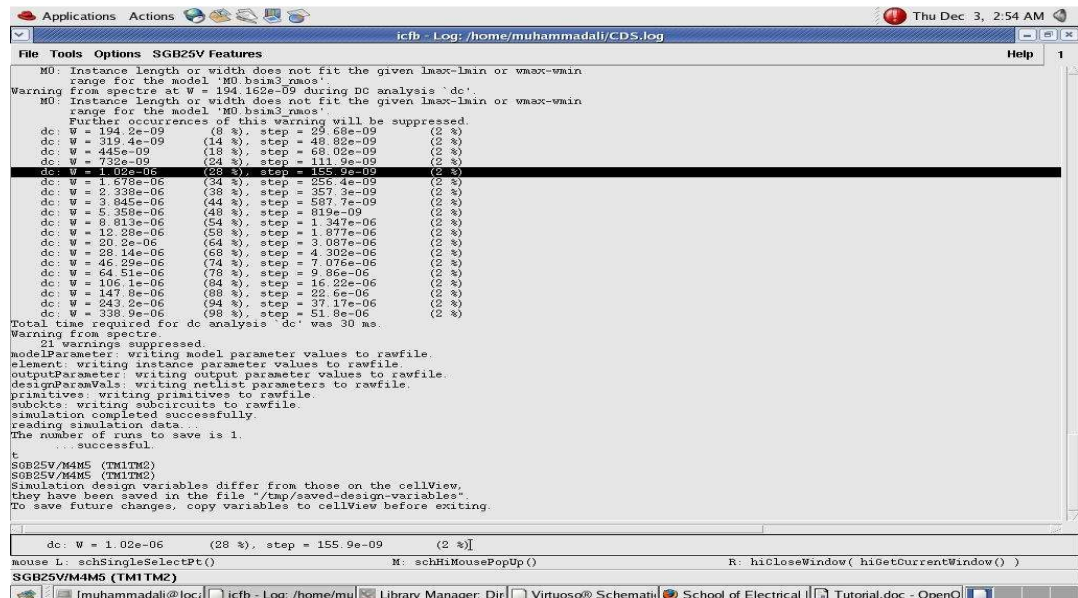

Fig.12: Simulation Window
- On the ADE window, you will now be having dc type in the analysis section with the argument 't'. Now click on simulation, and then click 'netlist and run'. The simulation will take place in another window just like the one shown below in Fig.12.